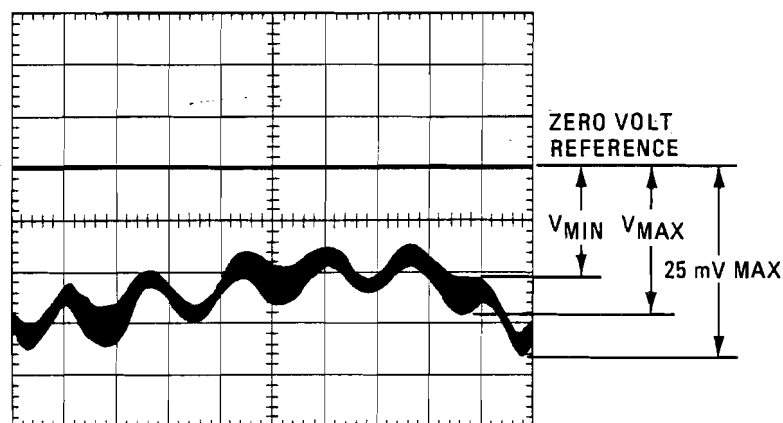

Figure 4-12. Typical Low Frequency Swept VSWR Measurement
4. Select several points on trace and calculate V_{MAX}/V_{MIN} (see Figure 4-12).